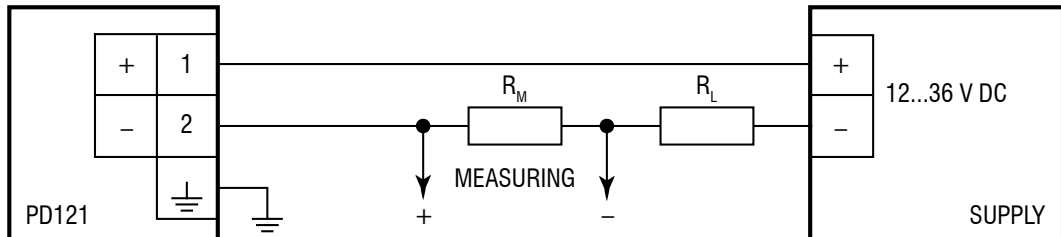

Fig. 4.1 Wiring diagram
The transmitter should be connected in accordance with the wiring diagram (Fig. 4.1) considering the load resistance requirements.
**Do not push out the terminal holder (5) using the screw hole or the cable gland (4). Enclosure seal can become damaged.**
- Unscrew the cable gland (4) and take out the cable seal (3).
- Lead the cable through the cable gland (4) and the cable seal (3) in the enclosure (2).
- Connect the stripped wire ends to the screw terminals of the terminal holder (5) in accordance with the wiring diagram (Fig. 4.1) and screw the terminals in tight.
- Put the terminal holder (5) in the enclosure (2) and snap the connector seal (6).
- When screwing in the cable gland (4), make sure the cable gland with the cable seal (3) are assembled correctly and the cable seal is not damaged.
- Plug the socket (2+5+6) onto the contacts (7).
- Screw in and tighten the screw (1).